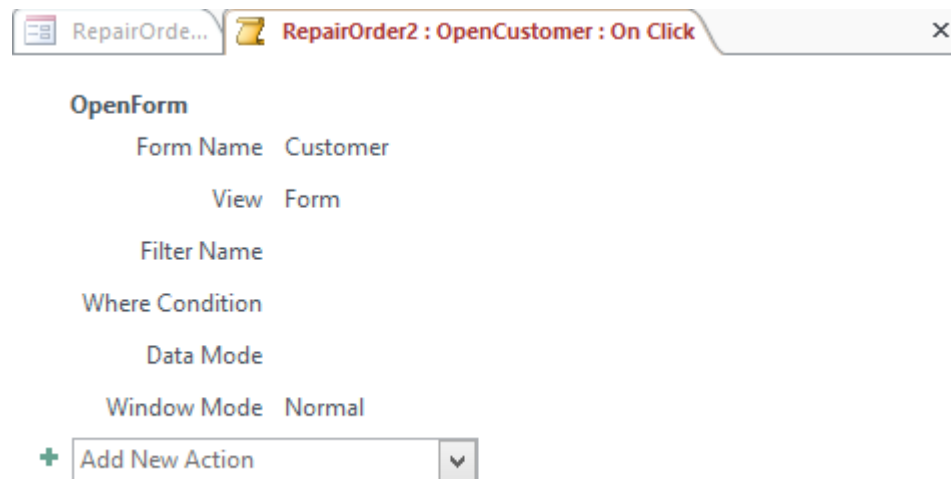

Figure 34: Event Macro for the Click Event
2. Open a Macro Tab: Because you had previously defined an event macro using the command button wizard, you need to revise it rather than create a new macro. To revise the event macro, click on the ellipsis (...) button for the *OnClick* event. A new tab opens as shown in Figure 34.